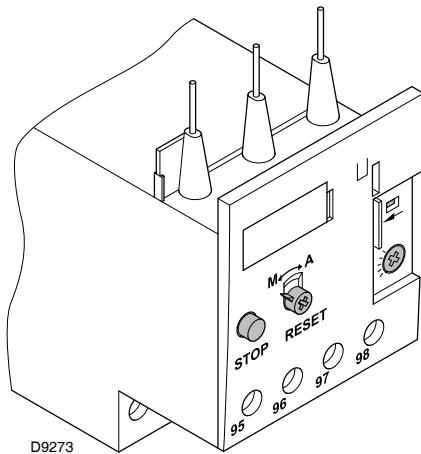

Fig. 33
The electro-mechanical thermal relay (Fig. 33) is used to avoid damage to the motor owing to a strong increase in absorption or the lack of a phase.
- To reset, in the case of an intervention of the thermal relay, press the button “RESET” (Fig. 33).
- The button “STOP” (Fig. 33) opens the NC (95-96) contact and stops the motor.